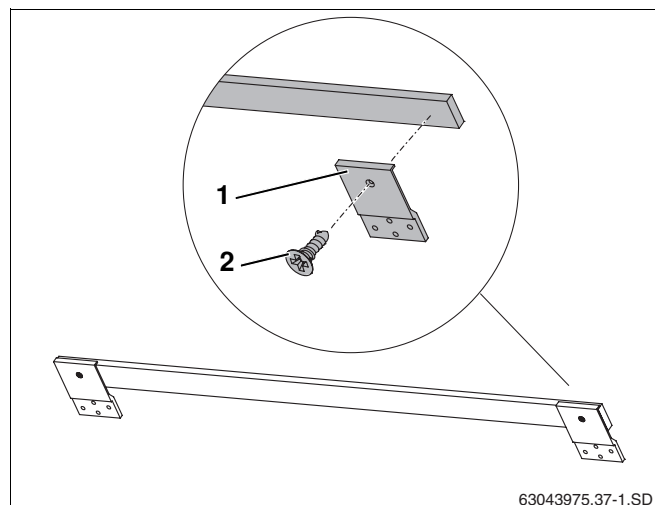

Fig. 10 Pre-assembling anti-slip protection devices with strip of wood
For landscape installation, 3 anti-slip protection devices (Fig. 10, **Item 1**) must be fastened to one strip of wood (2 on the outside, 1 in the middle).
- Fasten two anti-slip protection devices (Fig. 10, **Item 1**) to the end of the strip of wood provided, using screws 4×10 (Fig. 10, **Item 2**).